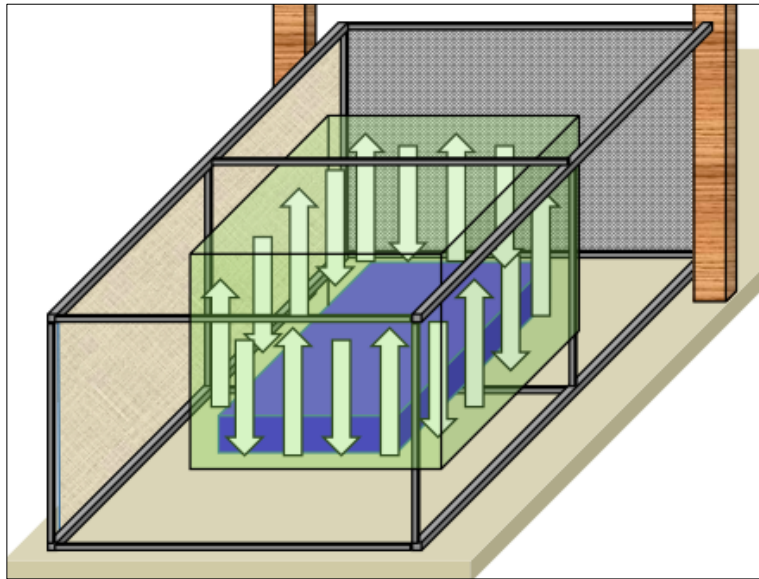

Figure 2: Direction for collection of Mosquitoes inside the bednet. (© Courtesy of Jason Moore, IHI)
- 4.15 At 06:30 hours, the volunteers will collect mosquitoes from within their LN using the prokopack with the collection cup labelled INSIDE working from the bottom right corner of the net in a clockwise direction, working from the bottom up and then down (Figure 2). This must be completed in 3 minutes.